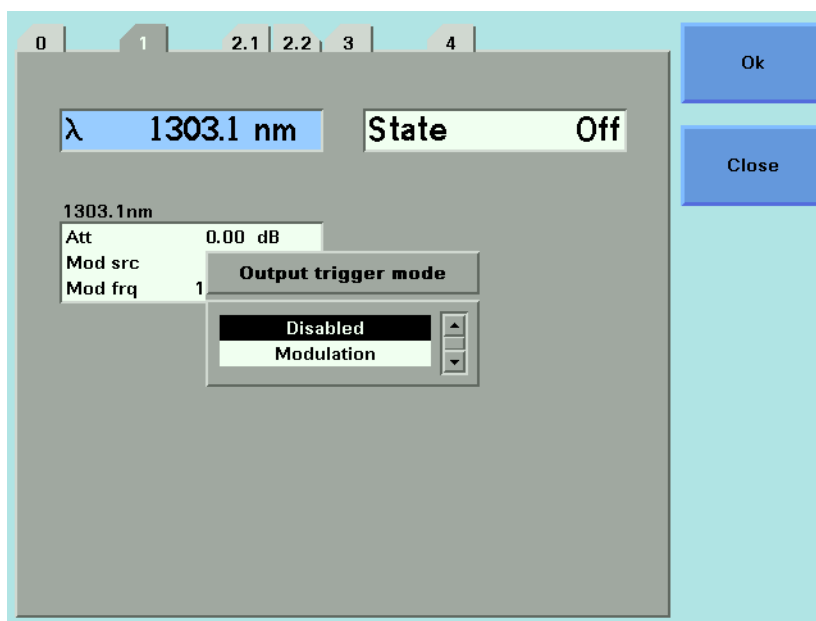

Figure 62 Output Trigger Mode
- 3 Move to <Output Trigger Mode>, by using the cursor key, and press *Enter*. You will see the screen in Figure 62 .